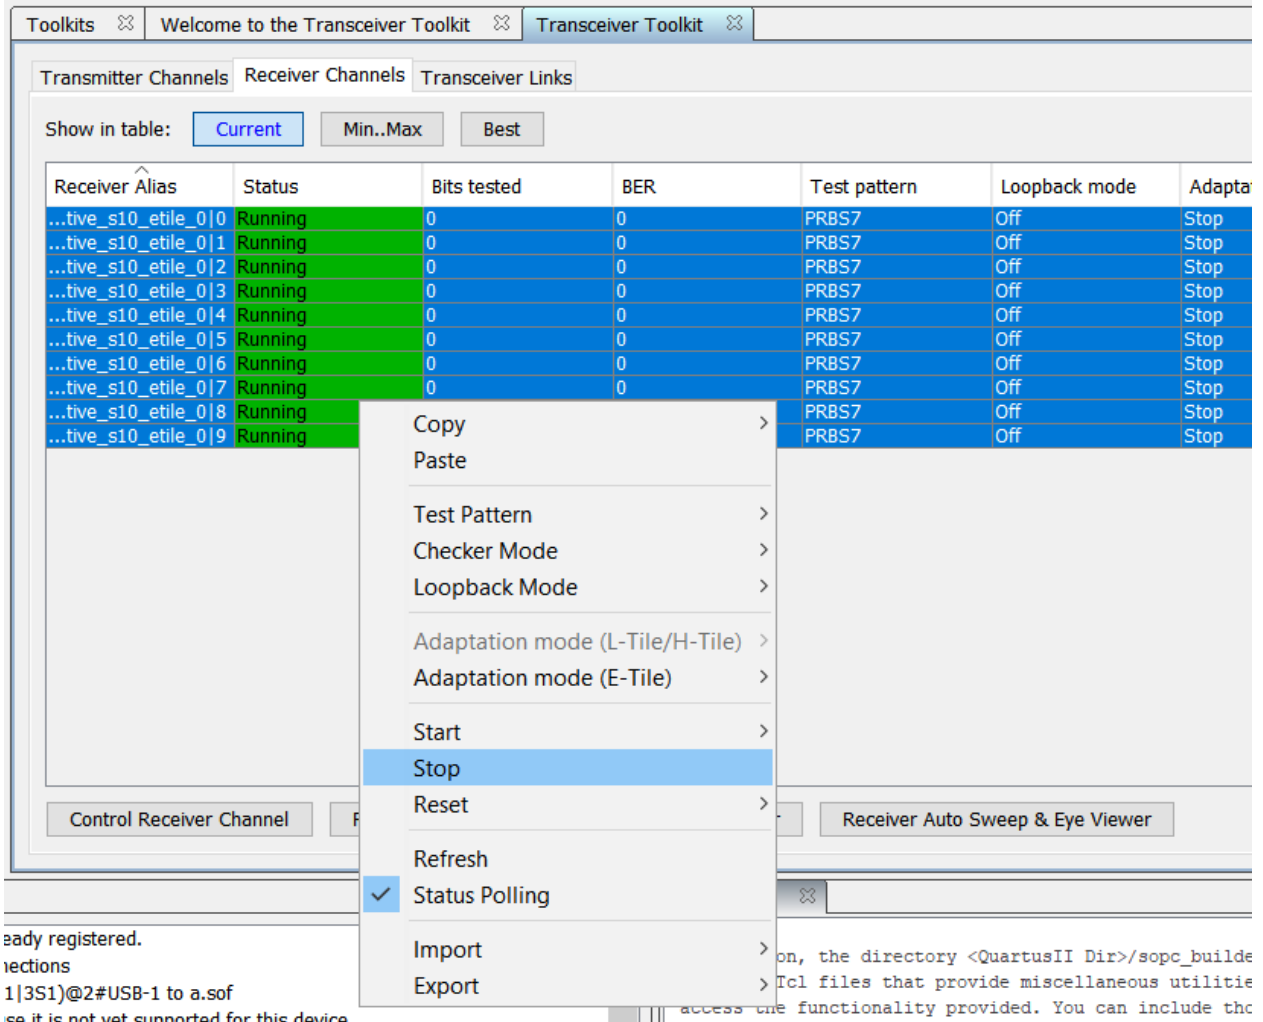

Figure 5. Stopping the receivers
6. Go to the Receiver Channels tab. By default, you should see the status = Running for all channels. Select all channels and Right click -> Stop the receivers as shown in the Figure 5